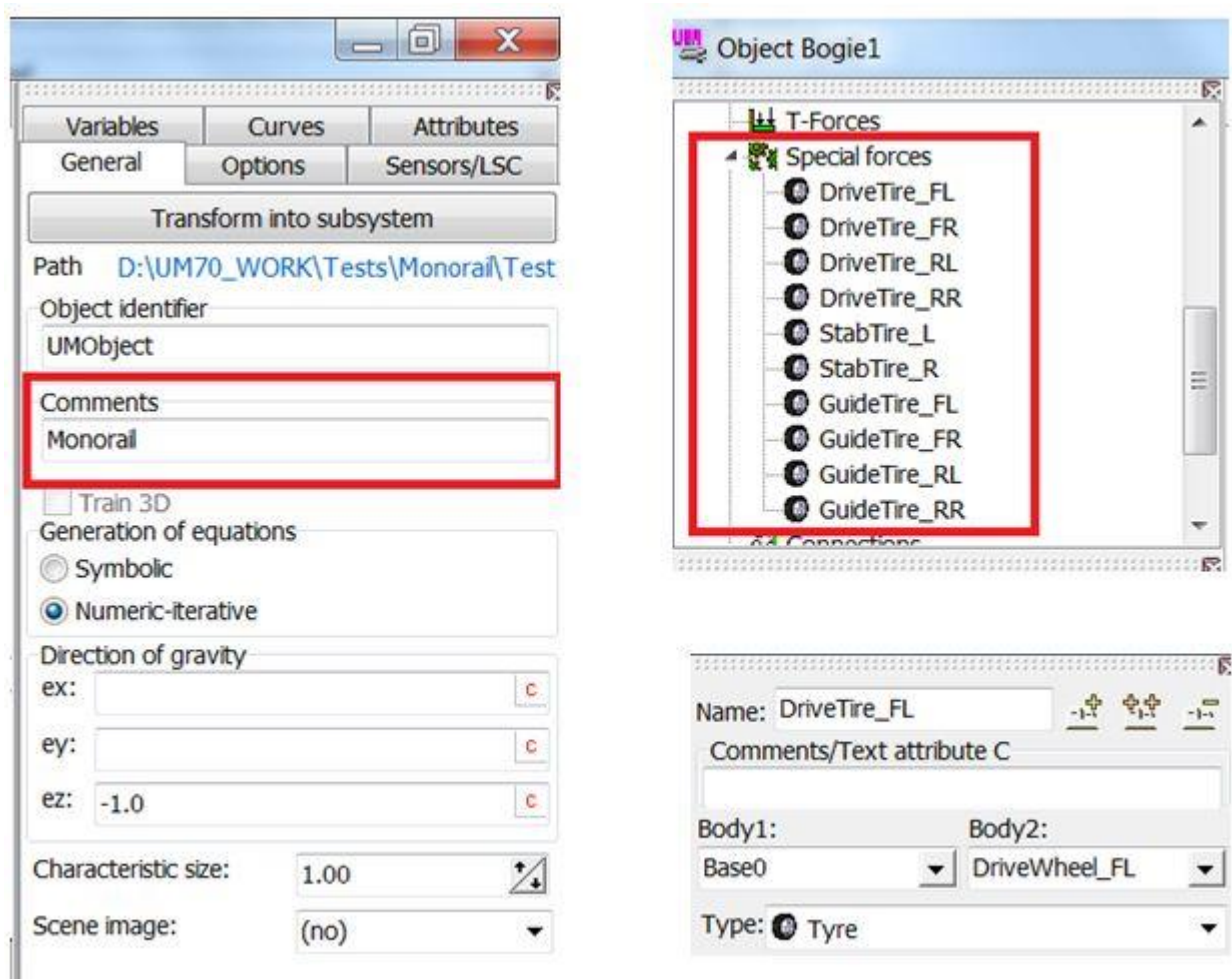

Figure 26.3. Text attribute 'Monorail'. Special forces 'Tires'
- The standard text comment 'Monorail' must be set in the **Comments** box on the **General** tab of the data inspector, figure 26.3, left;
- Special forces of the **Tire** type are assigned to the wheels, figure 26.3, right.
- Center of mass is located at the origin of the wheel-fixed system of coordinates (SC).
- A special force element of **Tire** type should be created for each of the wheel, figure 26.3, right.